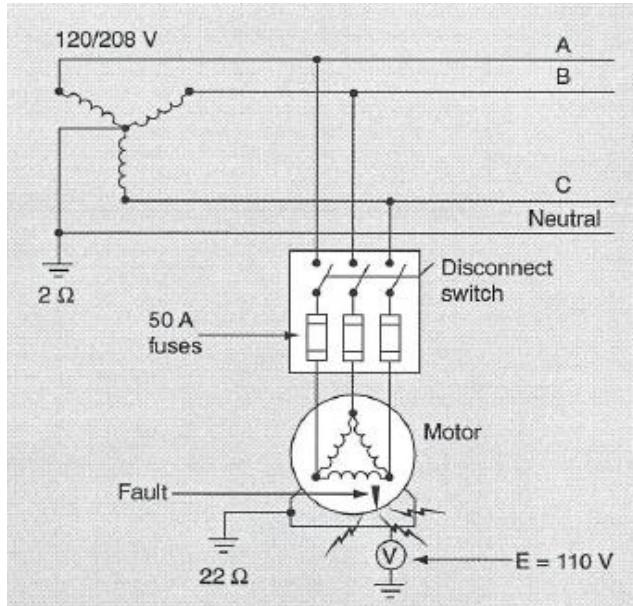

Figure 4.11: Motor not Grounded to Transformer
- 4-37 Figure 4.11 shows a grounded Y secondary system with a neutral solidly grounded through a $2\ \Omega$ ground. The secondary potential difference is 120/208 V. The load on the branch circuit is protected by 50 A fuses, and the load is grounded separately through a $22\ \Omega$ ground connection. There is no ground connection between the transformer and the load.